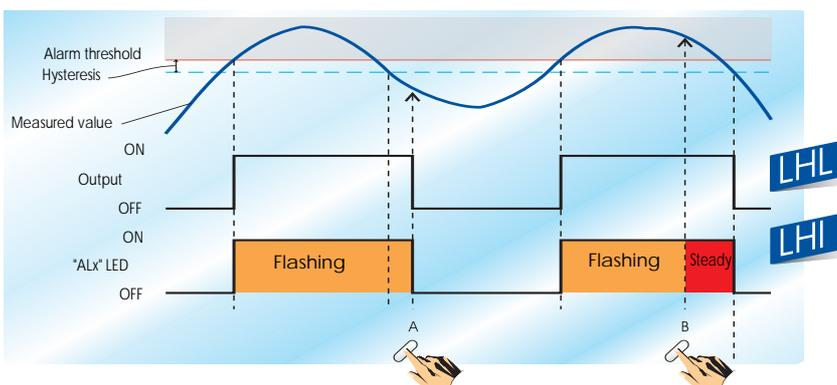

Figure 4
- Manual (see figure 4)
- manual (see figure 4)